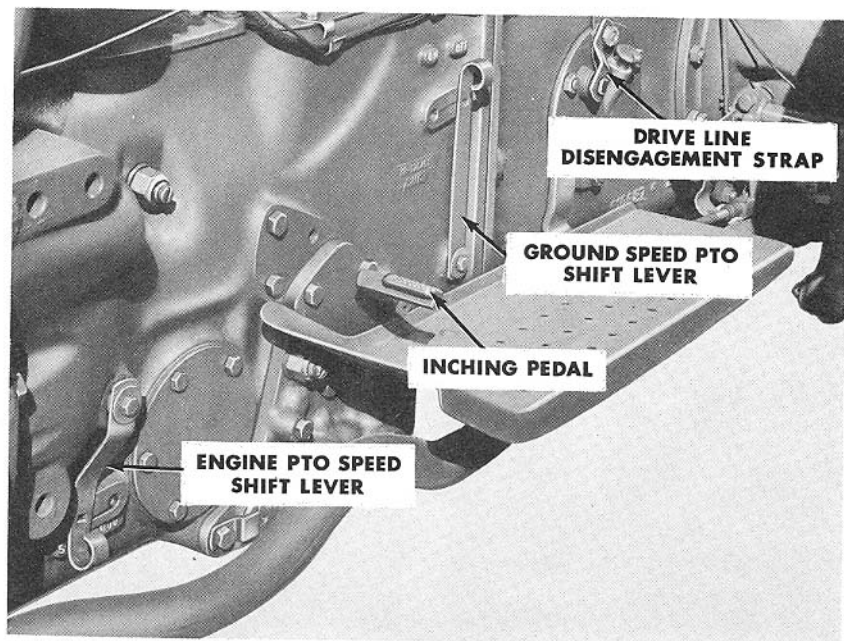

Figure 6
On Select-O-Speed Transmission equipped tractors a foot operated inching pedal, Figure 6, allows you to ease into implements when attaching them, and can be used for quick disengagement of power to the rear wheels.
Two engine P.T.O. speeds are available on the Model 981 tractor. When the P.T.O. speed shift lever, Figure 6, is in the forward position the P.T.O. shaft turns at the standard A.S.A.E. speed of 540 rpm. When the speed shift lever is in the rear position the shaft turns at 1000 rpm.
The proportional ground speed P.T.O. is available on the Model 981 tractor. Move the ground speed P.T.O. shift lever, Figure 6, to the forward position to place the shaft in operation. To disengage the shaft, move the lever back into the "OFF" position.
To tow or push a Select-O-Speed Transmission equipped tractor, when the engine is not running, the drive line must be disengaged from the rear axle. This is necessary as the Select-O-Speed Transmission shifts automatically to park (P) whenever the engine stops. Operation of the disengagement strap, Figure 6, is described on page 24 of this manual.